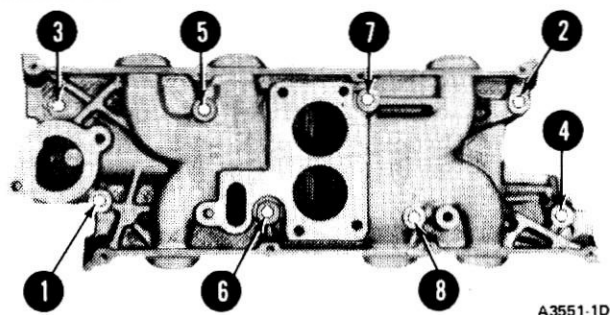

FIG. 10 Intake Manifold Torque Sequence
2. Apply sealing compound to the attaching bolt bosses on the intake manifold and position the intake manifold. Tool T72C-6519 is required to torque one of the intake manifold bolts. Follow the torque sequence in Fig. 10 and torque the bolts to specifications.
3. Install intake manifold. Be sure to use sealing compound on gasket surfaces and to position gasket correctly. Torque attaching bolts in sequence (Fig. 10).